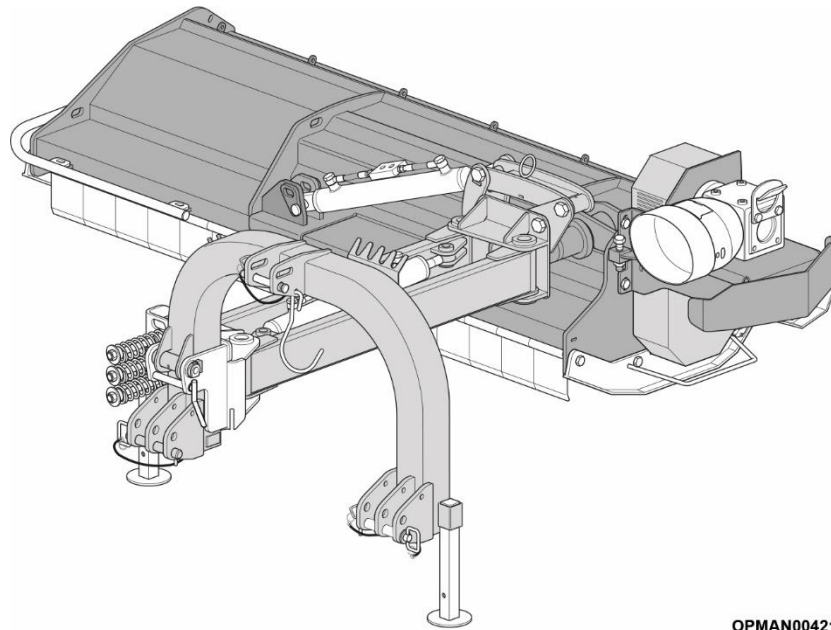

Figure 17
- Use the specific supporting feet in the parking position (Figure 17).